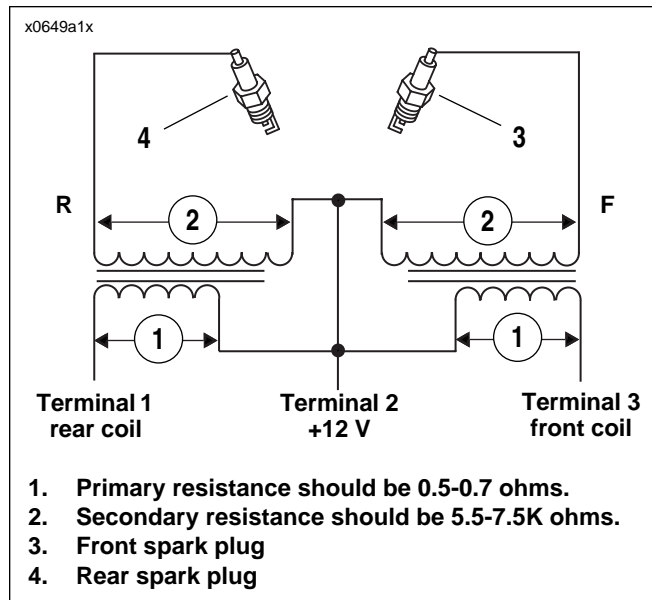

Figure 4-77. Ignition Coil Circuit
3. See Figure 4-77. Using HARNESS CONNECTOR TEST KIT (Part No. HD-41404) gray socket probes, place multimeter wires on primary coil windings from terminal 1 to 2, and from terminal 2 to 3.
3. See Figure 4-77. Place multimeter wires on secondary coil windings from terminal 2 to R, and from terminal 2 to F.